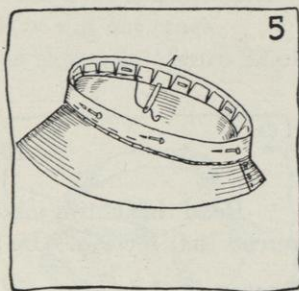

FIG. 5.
- Place and pin headsize band against and outside of turned up slashed headsize of brim, beginning at direct front of brim and working from each side toward lap of the back (see Figures 5 and 7 of Job 8, page 35).
- a. Backstitch headsize band to slashes just $\frac{1}{8}$ inch above headsize wire, with $\frac{1}{2}$ -inch forward stitches and $\frac{1}{4}$ -inch back stitches, using coarse needle and thread. Use the longer stitch inside of the headsize band (see Figure 5).
- a. Read and follow all of Sections 3 *k* (1) through (5) of Job 24, and see Figure 5 of the same job (page 101).